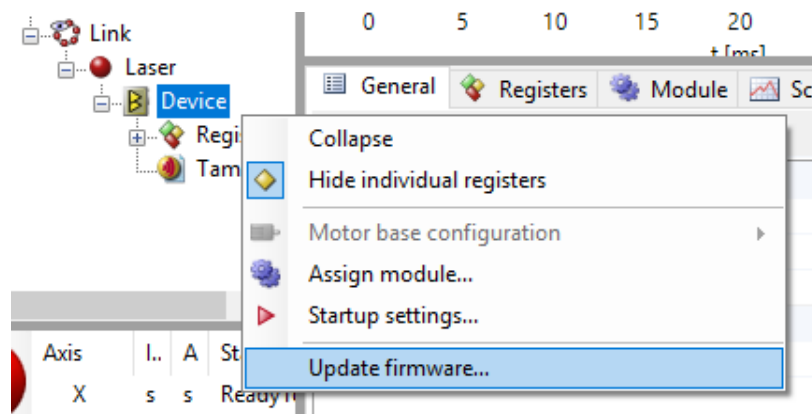

Figure 28: Firmware download via the station node.
- Right click the device to open the context menu (Figure 28).